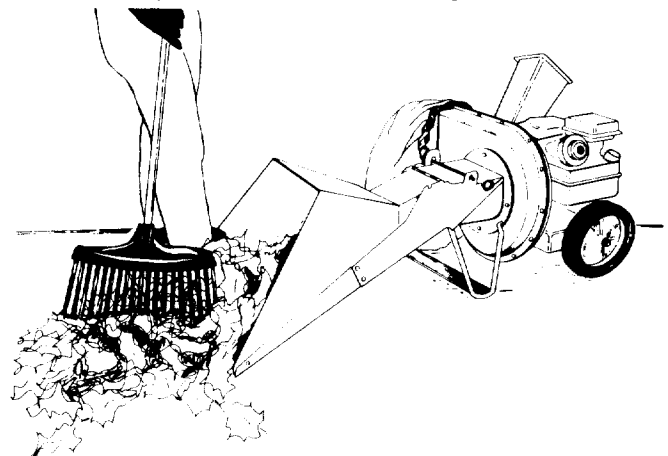
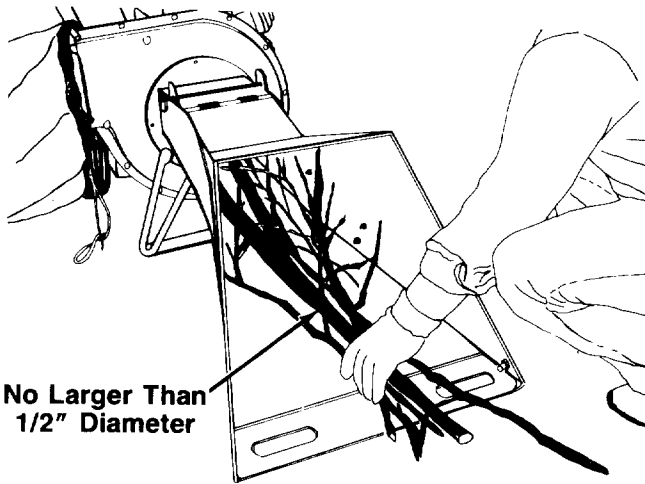

FIGURE 11.
FIGURE 12.
- Leaves and small twigs can be raked into the hopper assembly when the hopper assembly is lowered to the ground. See figure 11. Small branches up to 1/2" diameter can also be fed into the hopper assembly in this position. See figure 12.